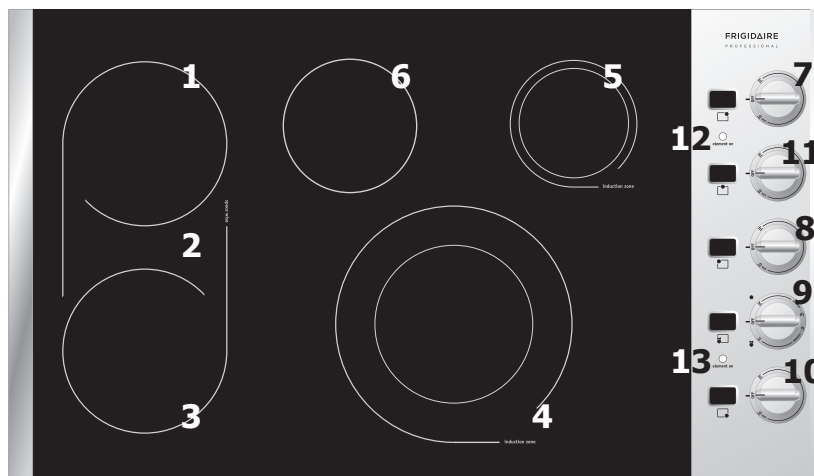

Figure 2 - 36" Model
6. Center Rear Single Radiant Element (Fig. 2 only)
11. Center Rear Element Control Knob (Fig. 2 only)